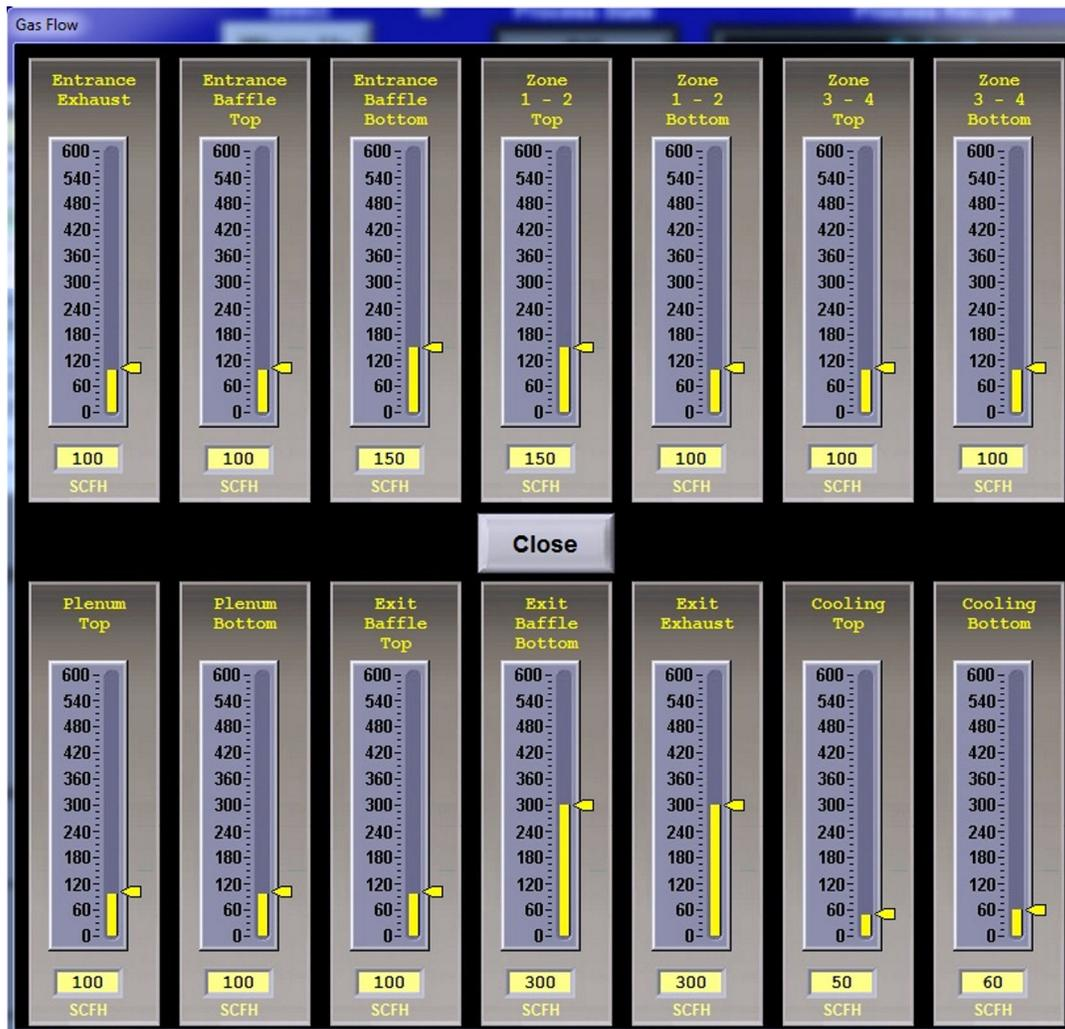

Figure 3-49 Gas Flow Screen
**Flow Meter Recipe Settings.** Select Recipe button and on the Recipe screen, select the Gas Flow button. The Gas Flow screen (Figure 3-49) will be displayed. The Gas Flow screen is provided as a record of the settings required for the recipe only. This screen displays the flowmeter setpoint values stored for the recipe in the editor. The flowmeters must be adjusted manually for each recipe loaded.
The labels as flowmeter ranges are entered at the factory. To change the recipe value for a flowmeter location, click on the setpoint field (Figure 3-49) and enter a new value.